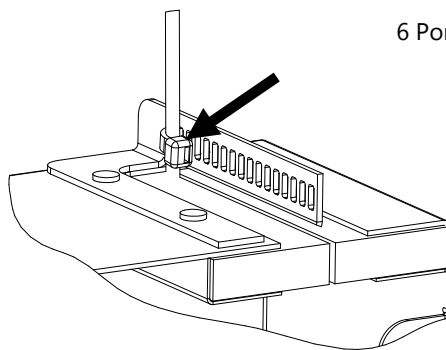

Figure 2
3. Secure the ground wire to the strain relief bar with a supplied cable tie as shown in **Figure 2**.